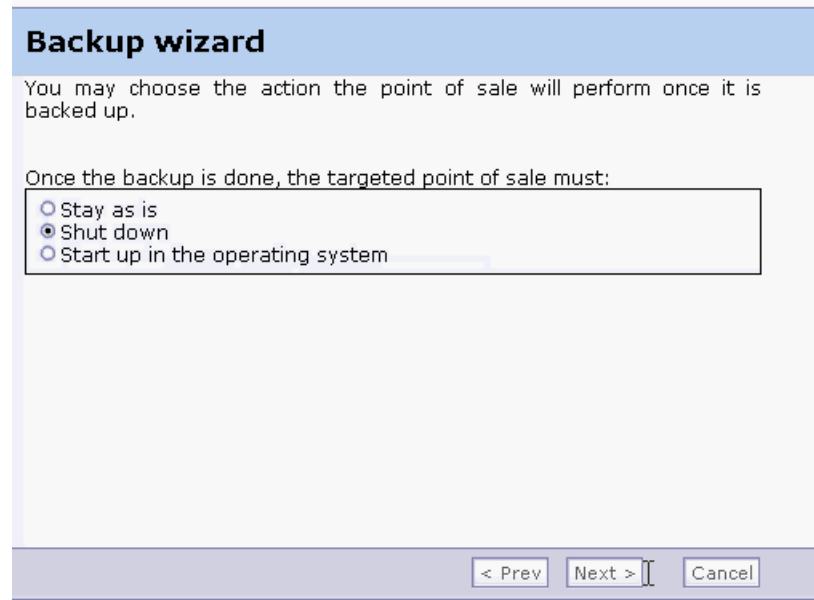

Figure 5-10 Selecting an action to perform after completing the backup
3. In the next window, choose the state you want the backup to attempt to leave the POS terminal in after the backup has been performed, and click **Next**. (Figure 5-10).